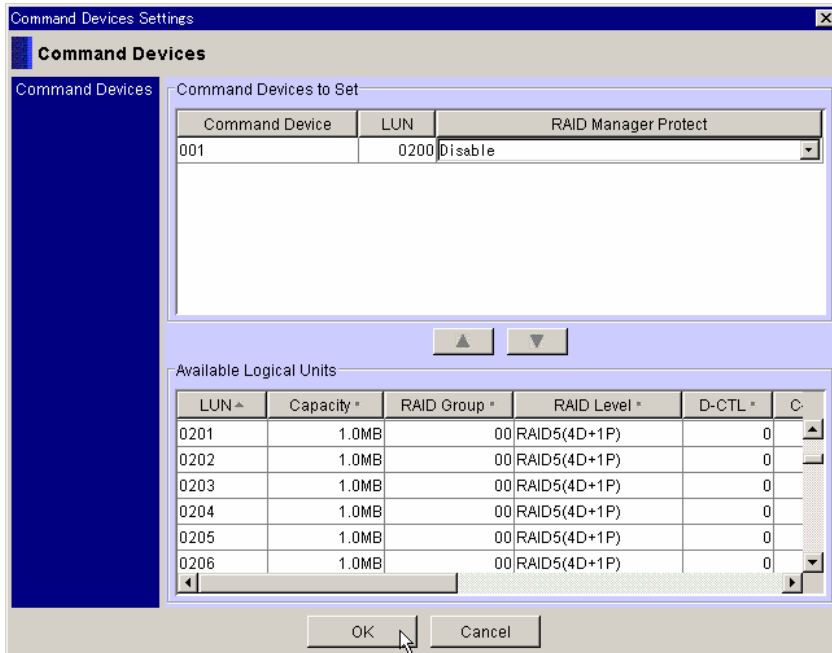

Figure 4.26 Command Devices Settings Window (after setting)
4. In **Available Logical Units** list, select the desired LUN, and click the  button to move that LUN to the **Command Devices to Set** list (see Figure 4.26).